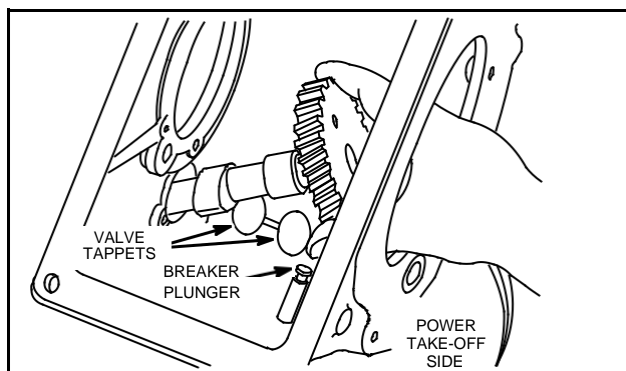

Fig. 884 - INSERTING CAM GEAR
2. Insert cam gear from power take-off side of cylinder, Fig. 884.